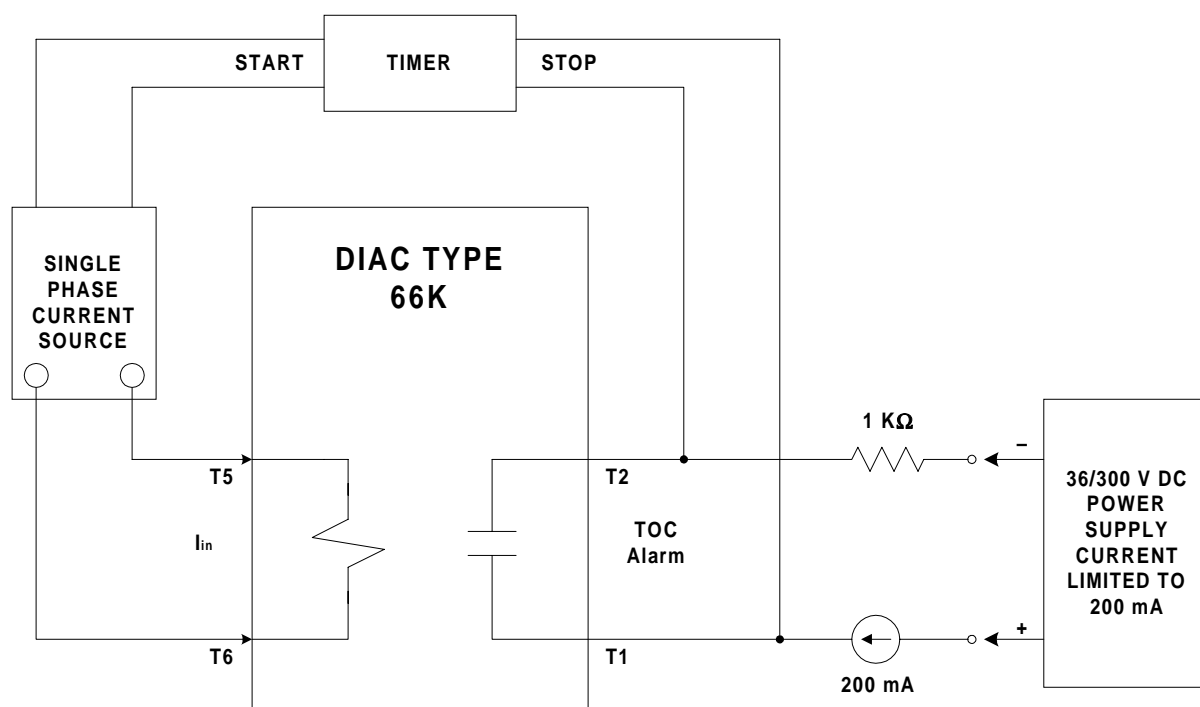

Figure 6–1: TOC ALARM UNIT TEST SETUP
- Connect the relay as indicated in Figure 6–1: TOC ALARM UNIT TEST SETUP. In order to apply current to the relay, use a 50/60 Hz voltage source, with a variable resistor in series, or an electronic current source.
Because the Digital self powered series of relays has many different curve characteristics, the basic test instruction will be given and the data for each of the curves can be found in Table 6–1: PICKUP TIMES FOR VARYING MULTIPLES OF PICKUP (MPU) on page 6–3. With the relay still connected as indicated in Figure 6–1: TOC ALARM UNIT TEST SETUP, set the time overcurrent unit to minimum pickup and set the corresponding time dial to 5.